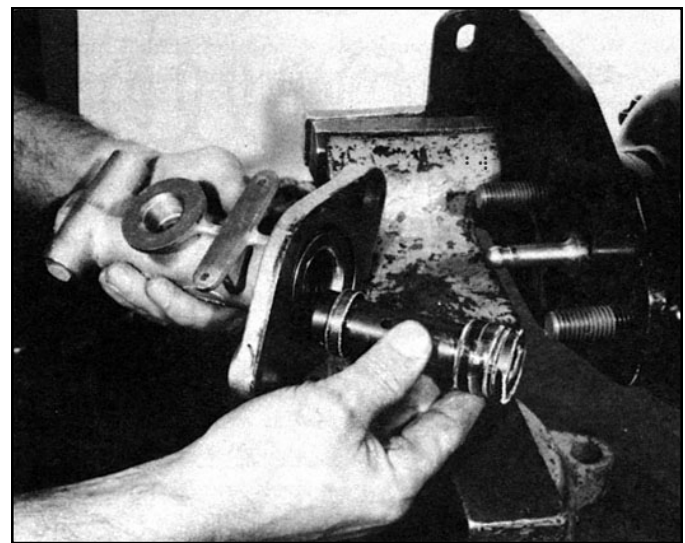

FIGURE 9
7. Remove the piston assembly and spring from the body of the master cylinder. (Refer to Figure 9.)